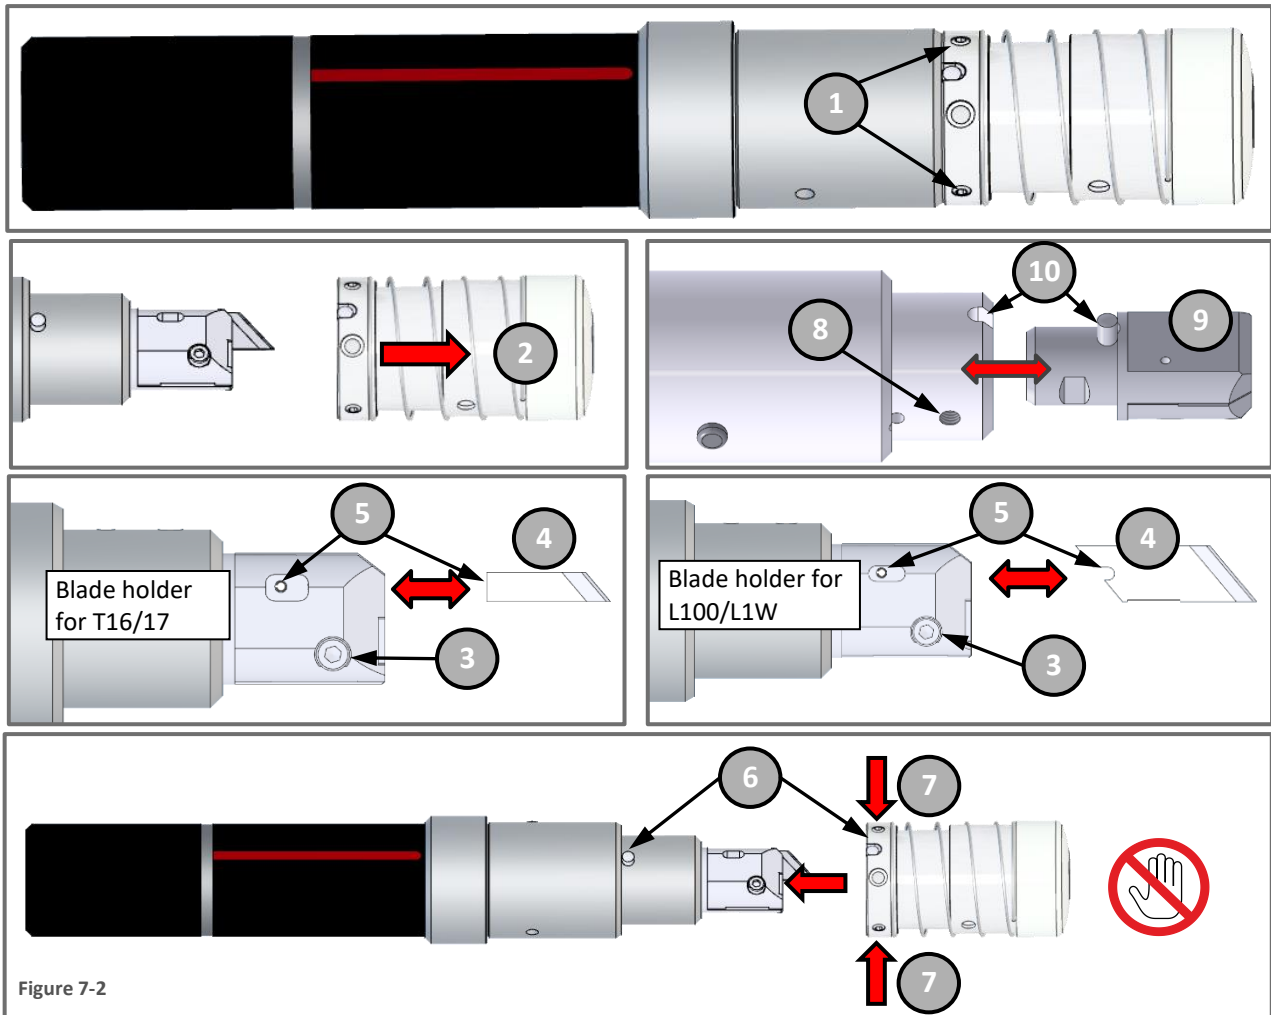

Figure 7-2
a) Loosen the locking set screws (1) and remove the movable blade guard (2) Figure 7-2.